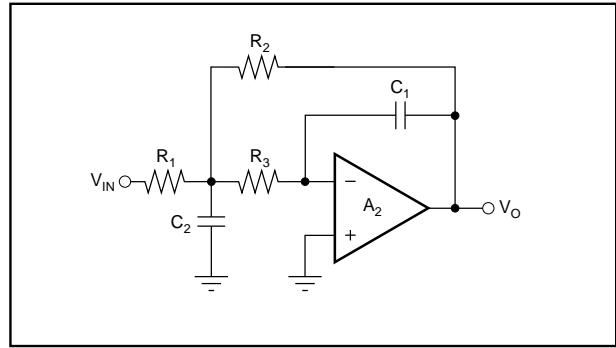

FIGURE 7. MFB Complex Pole-Pair Section.
- Multiple Feedback (MFB)—shown in Figure 7.
Figure 7 circuit,  $K = R_2/R_1$